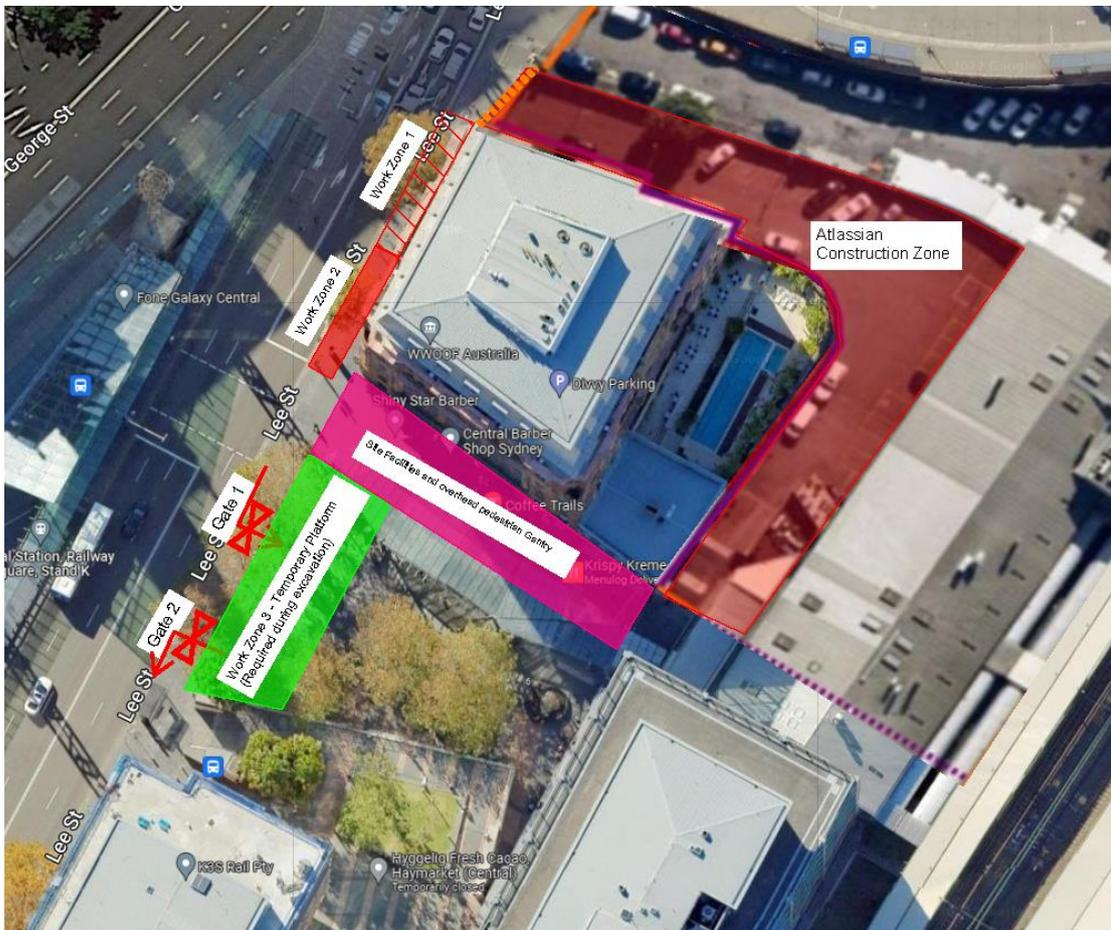

Figure 5.3.1a – Workzones 1 - 3
- Workzone 3: Temporary loading platform within Henry Deane Plaza. This workzone will be utilised during the period of the podium excavation whereby tower superstructural works are also to continue. By constructing a temporary platform as seen Figure 5.3.1a & b, the excavation plant & equipment and concrete placement equipment can be rediverted from Lee Street to within the site. This strategy takes these construction activities away from the public.